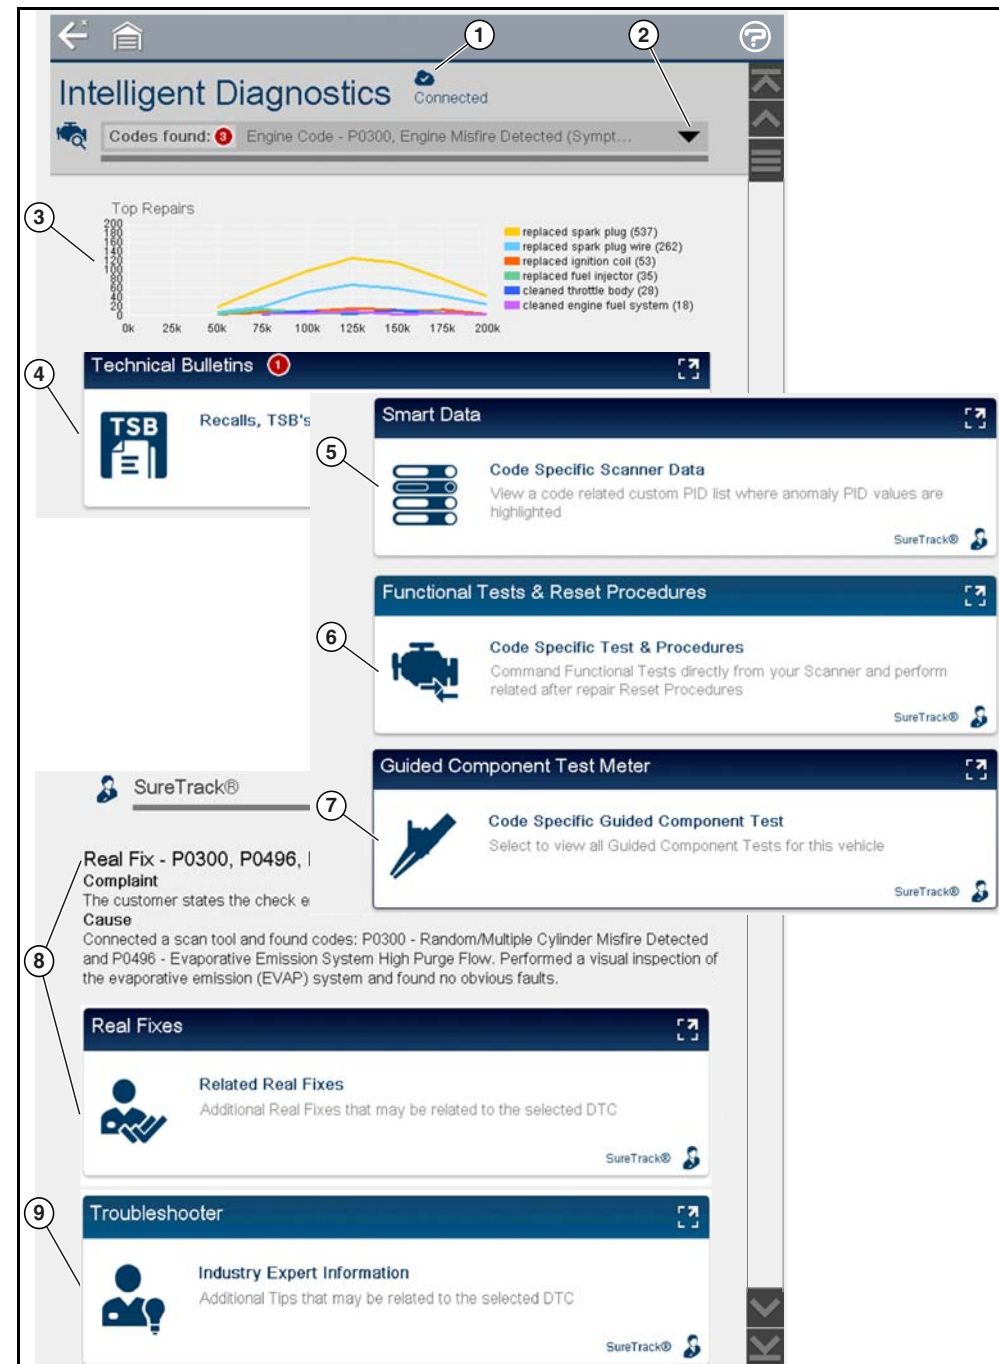

Figure 8-2 Multi-card menu
The following descriptions are used with *Figure 8-2*.
- 1. Wi-Fi Connection Status Indicator** - A Wi-Fi connection indicator (cloud icon) is provided on the top of the screen (*Figure 8-2*). This icon is also used to indicate service expiration, the icon changes color to red, and displays the word "Expired" in the event your access has expired.